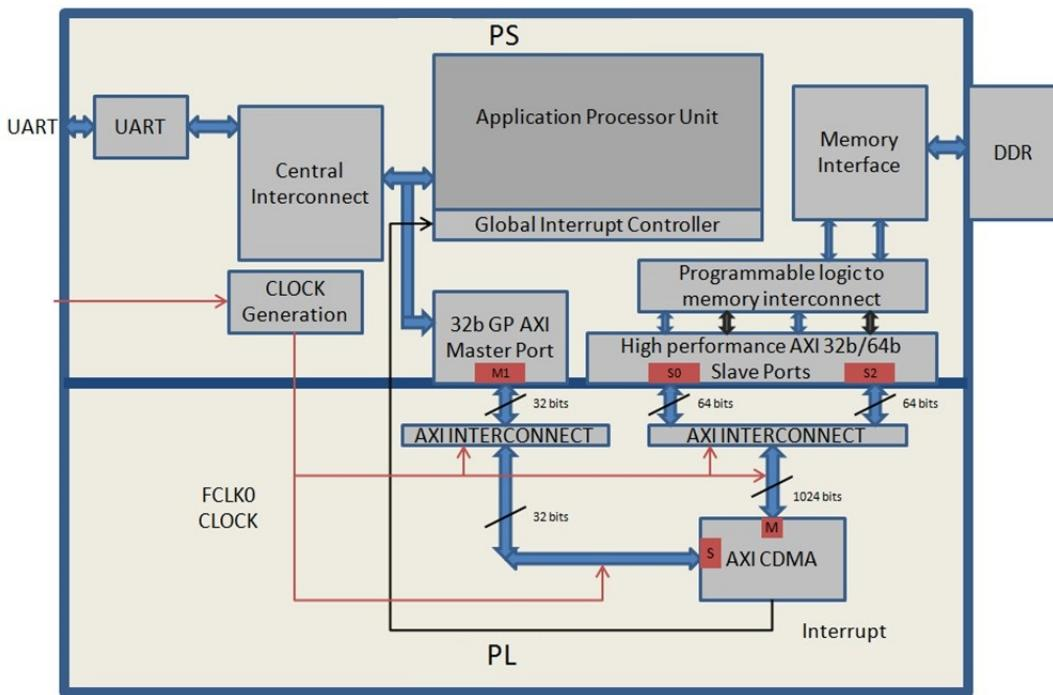

Figure 5-1: Block Diagram
In this section, you'll create a design using AXI CDMA intellectual property (IP) as master in fabric and integrate it with the PS HP 64 bit slave port. The block diagram for the system is as shown in Figure 5-1, page 48.